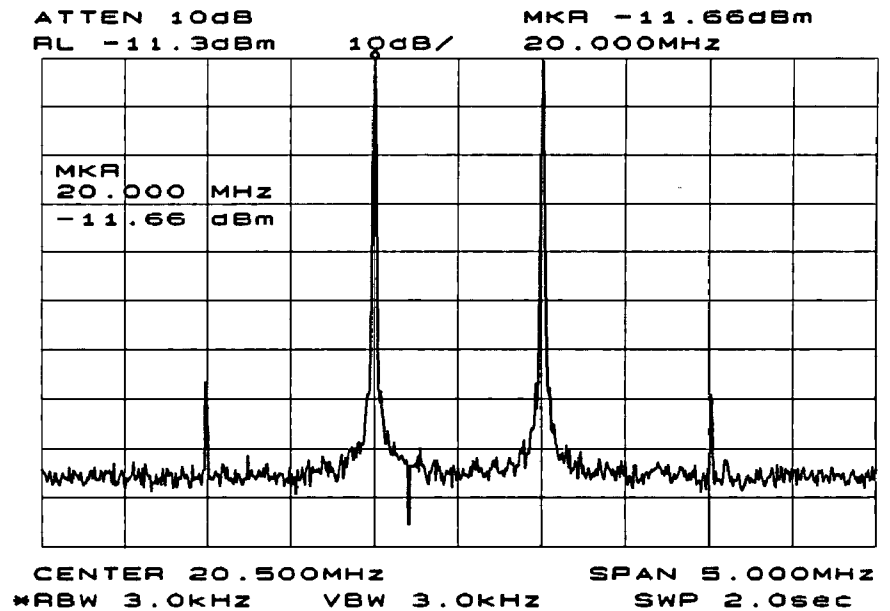

Figure 3-6. Signal Peak Set to the Reference Level
3. For greatest measurement accuracy, position the peaks of the source signals at the reference level. To do this, place a marker on the source signal of highest amplitude by pressing **PEAK SEARCH** and **MARKER NORMAL**. Then set the reference level to this value by pressing **MKR→** and then **MKR→REF LVL**. Figure 3-6 illustrates the resulting display.